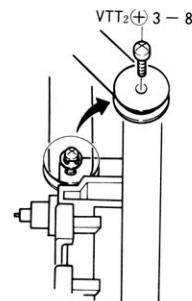

Fig. 13
- 1) Remove the E-ring off and hold the pulley, Tuning dial at the chassis with the screw (VTT2+3-8) (Refer to Fig. 13)